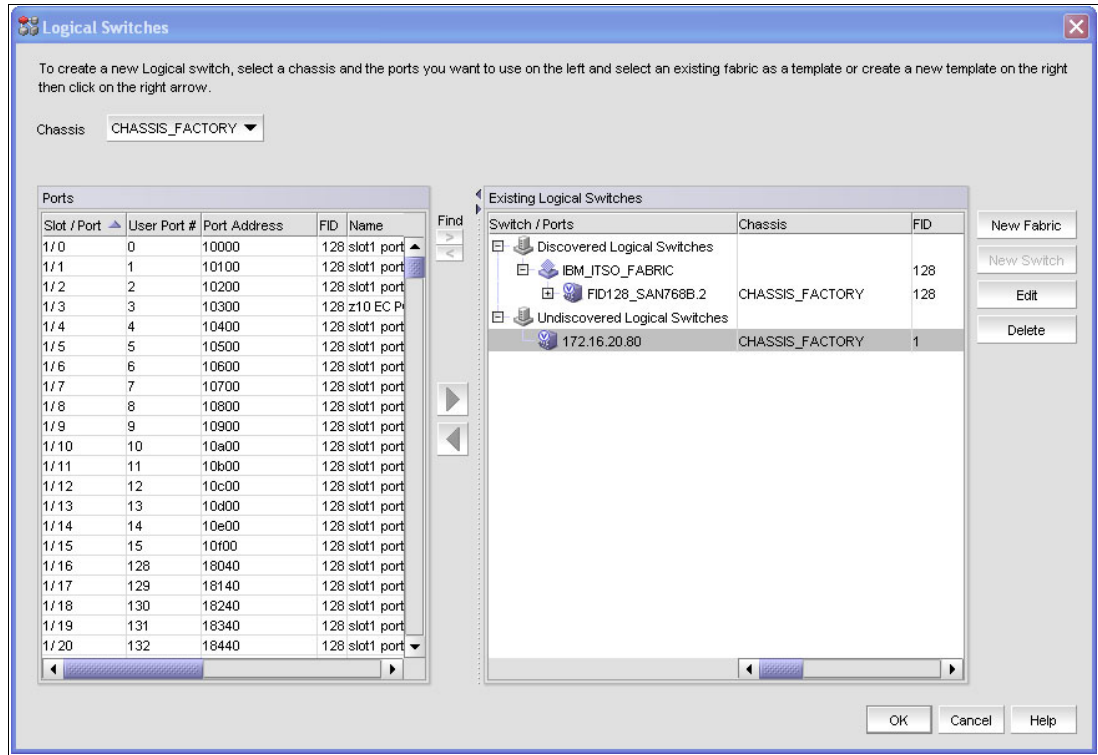

Figure 8-31 Create a Logical Switch
7. Wait for the Logical Switches configuration window to appear, as shown in Figure 8-31.